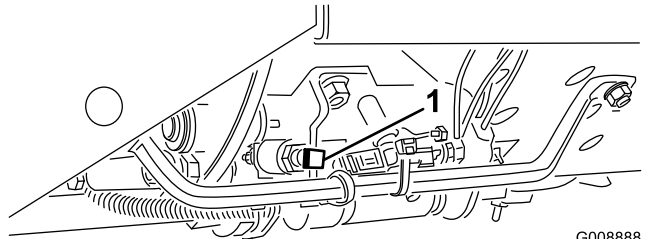

Figure 22
**Important:** The mow speed is set at the factory to 9.7 km/h (6 mph). You can increase or decrease the mow speed by adjusting the speed stop screw (Figure 22).